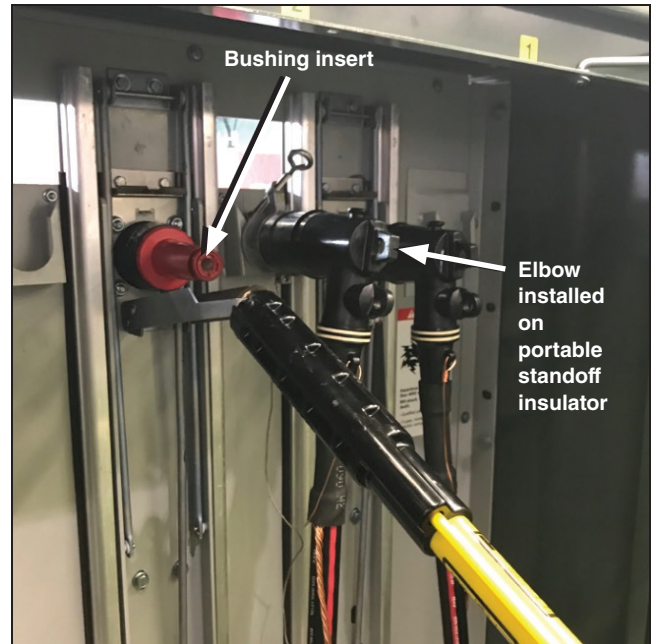

Figure 15. Raising the mechanical interlock to unlock the TransFuser Mounting.
STEP 3. When the elbow has been moved and mounted on a feedthru or standoff insulator, the TransFuser Mounting mechanism may be operated. Using the shotgun stick, raise the mechanical interlock to unlock the TransFuser Mounting. See Figure 15. This interlock, which cannot be lifted to the unlocked position until the elbow has been removed, guards against gaining access to the fuse while it is carrying current.
- STEP 2.** Using the shotgun stick, lower the mechanical interlock to lock the TransFuser Mounting. See Figure 15 on page 17.